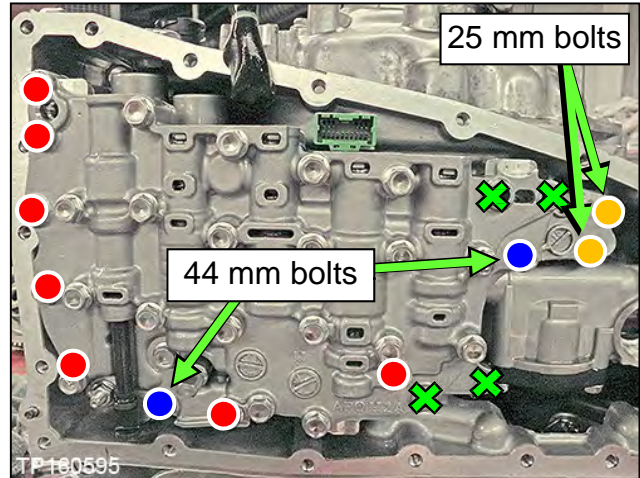
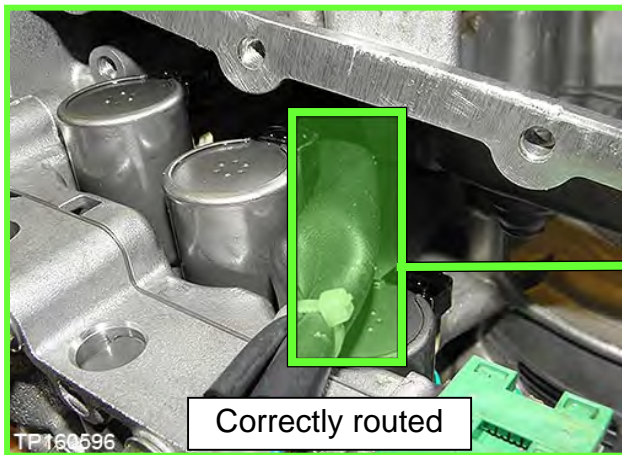
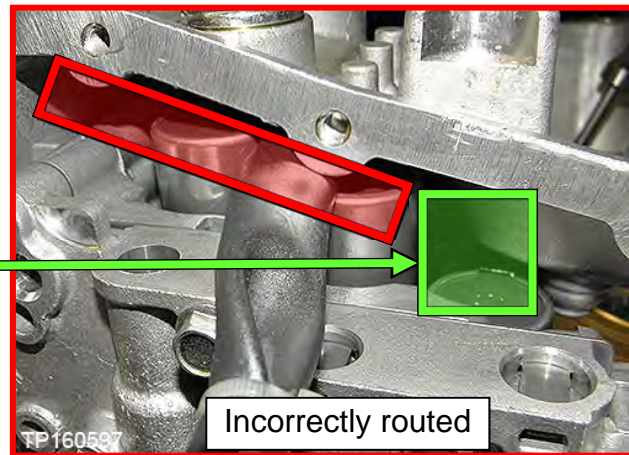

Figure 175
Figure 176
Figure 177
144. Install the Control Valve with eleven (11) mounting bolts (Figure 175).
**IMPORTANT:** Leave four (4) ✘ bolt holes blank at this step.
**CAUTION:** Make sure the wiring harness does not get pinched (see Figure 176 and Figure 177 for correct routing).